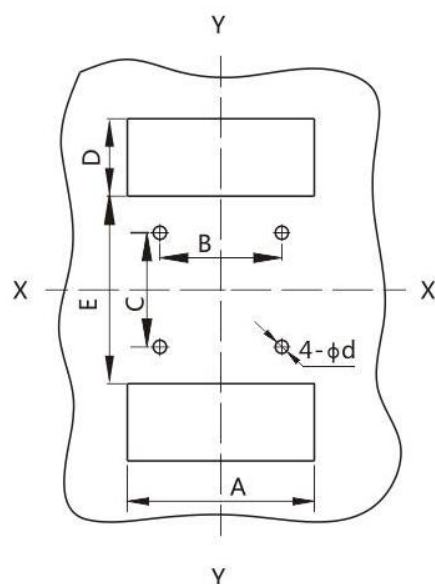

Figure 10 Hole size of mounting plate
(4) Dimensions of plug-in type rear connection see Figure 10 (X-X, Y-Y is the center of 3P circuit breaker)